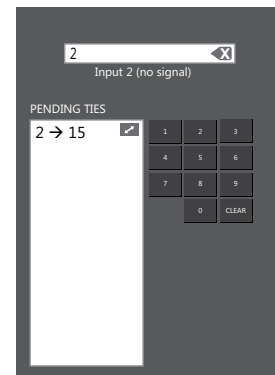

Figure 34. Expanded Pending Ties Box
3. If the the number of pending ties exceeds the space in the text box, scroll bars appear in the text box. You can also press the button in the top right corner (🗒) to expand the box (see figure 34).